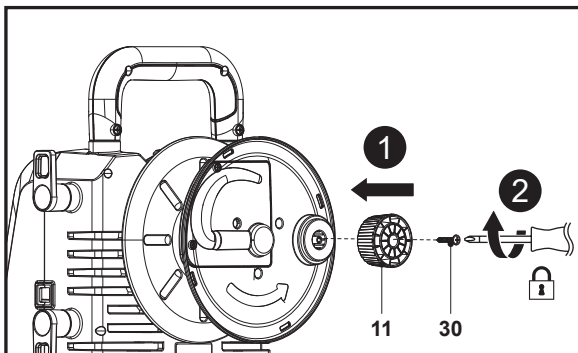

Fig. 3
1. Align the mounting hole on the hose reel knob (11) with its rest on the machine, then use a suitable cross-head screwdriver (not supplied) to secure the connection with the screw (ST4.8 x 16) (30) (Fig. 3, steps 1, 2).